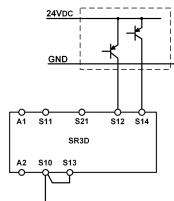
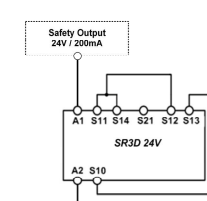

Fig. 7:
Fig. 8:
- For applications according to Fig. 7 and Fig. 8 make sure that the ground potential of the signal generator and the SR3D is the same